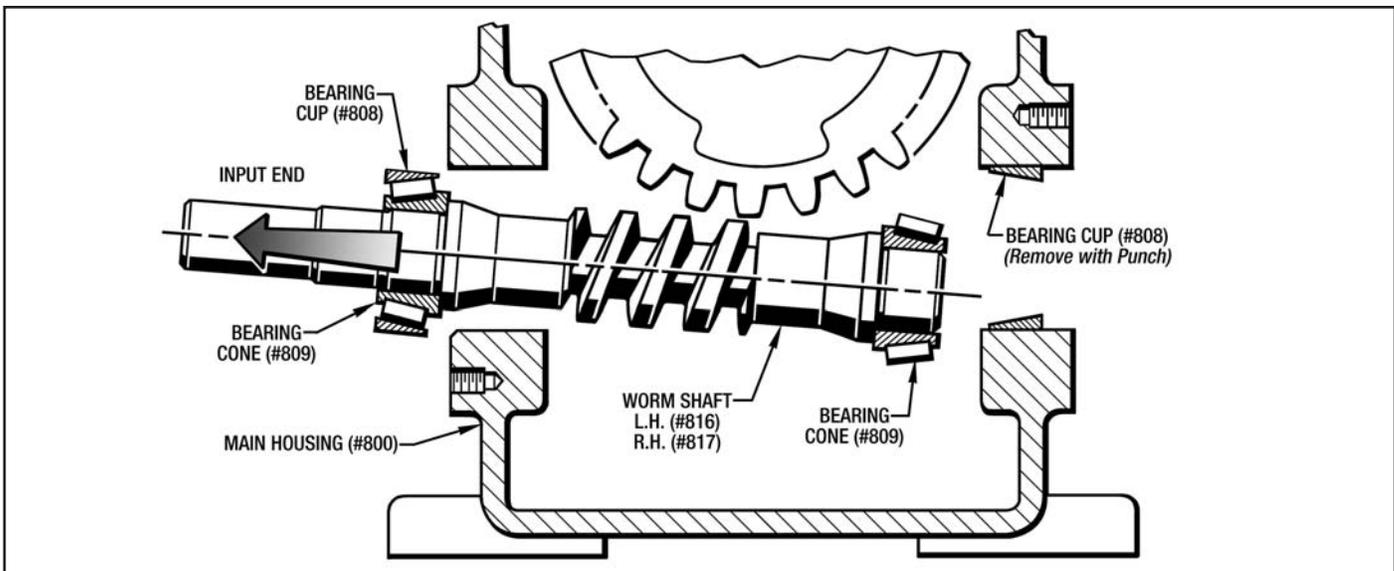

Figure 7.2 - Removing the Worm shaft
5. Tap out the Worm Shaft (#816) or (#817) from the opposite end of the input end. Pull the Worm Shaft out of the Main Housing (#800). (See *Figure 7.2*)
**NOTE - This will remove both Bearing Cones (#809) and (1) Bearing Cup (#808).**